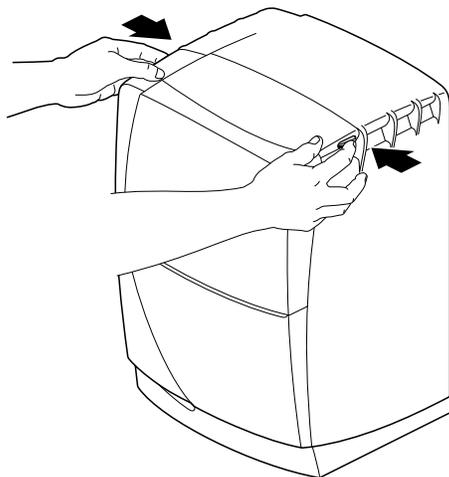

Figure 7-4 Pressing the Bezel Release Buttons
4. Press both bezel release buttons, as shown in Figure 7-4.